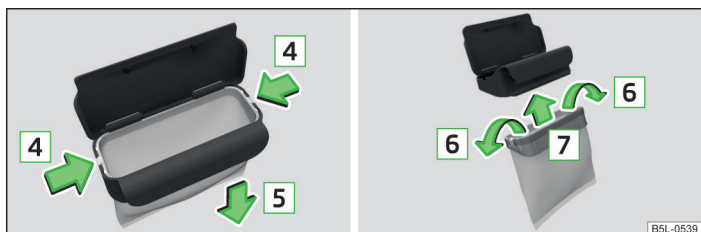

Fig. 66 Replace bags
- Push the two catches of the inner frame out of the container body in the direction of the arrow  » Fig. 66.